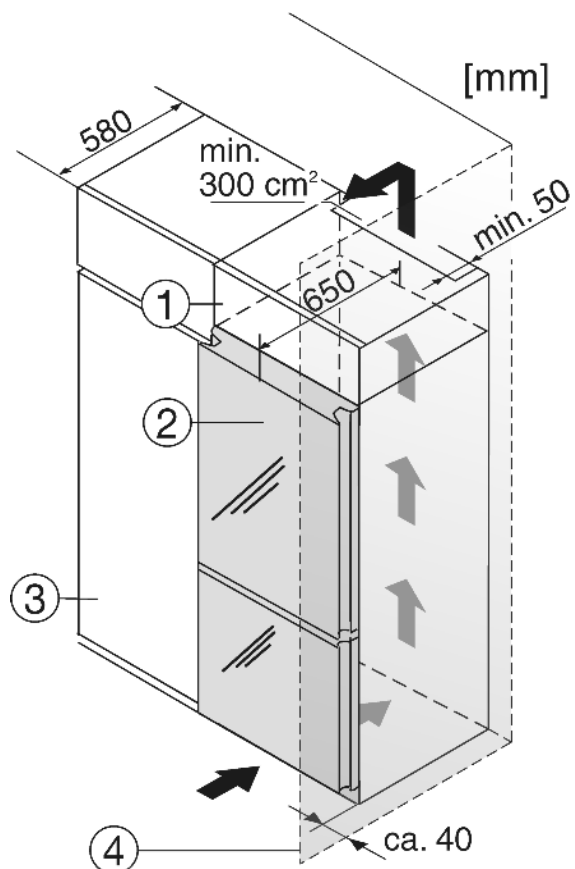

Fig. 17
(1) Stack cabinet
(2) Appliance
(3) Kitchen cabinet
(4) Wall
The appliance can be inserted into a row of kitchen units. To match the appliance *Fig. 17 (2)* to the height of the row of units, a suitable stack cabinet *Fig. 17 (1)* can be fitted above the appliance.
When inserting the appliance into a row of kitchen units (max. depth 580 mm), the appliance can be installed directly next to the kitchen unit *Fig. 17 (3)*. The appliance door projects 70 mm relative to the front of the kitchen units. It can be opened and closed perfectly as a result.
If the appliance is installed with the hinges next to a wall *Fig. 17 (4)*, the distance between appliance and wall has to be at least 40 mm.